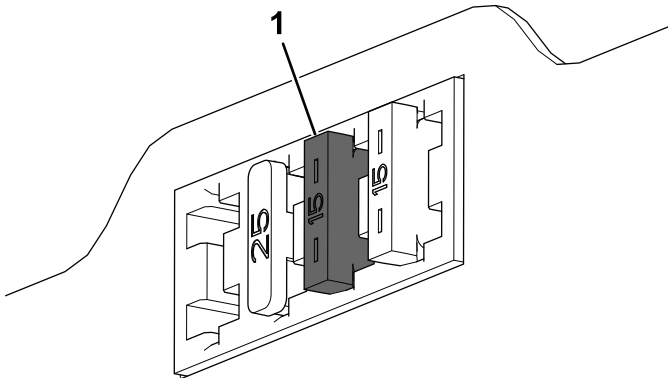

Figure 12
11. Insert the fuse (15 A) into the third position from the left when looking at the fuse block (Figure 12).